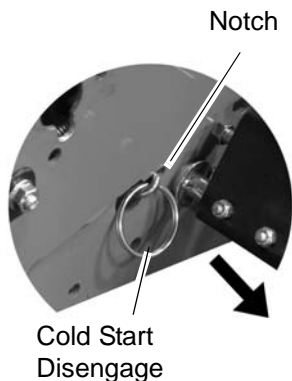

Figure 4
1. Pull out cold start chain 1 to 4 links and lock chain in frame notch (Figure 4).